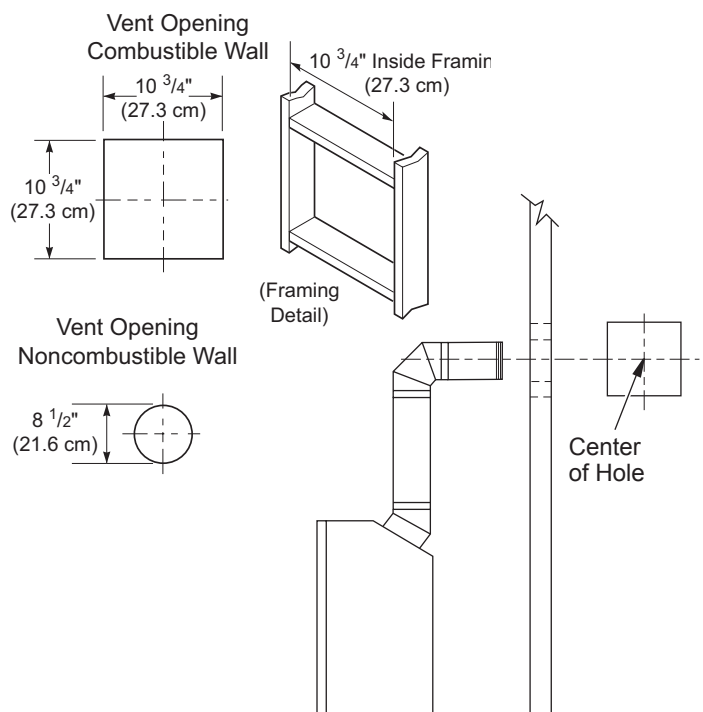
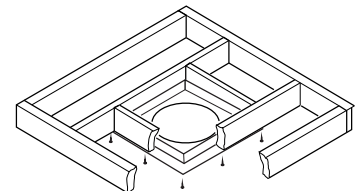

Figure 9 - Vent Opening Requirements
Figure 20 - Installing Firestop
- Carefully determine the location where the vent pipe assembly will penetrate the outside wall. The center of the hole should line up with the center-line of the horizontal vent pipe. Mark the wall for a 10 ³/₄" x 10 ³/₄" square hole. Cut and frame the square hole in the exterior wall where the vent will be terminated. If the wall being penetrated is constructed of noncombustible material, such as masonry block or concrete, a 8 ¹/₂" hole with zero clearance is acceptable (see Figure 9).
1. Cut a 10 ³/₄" square hole in the ceiling using the locating hole as a center point. The opening should be framed to 10 ³/₄" x 10 ³/₄" (27.3 cm x 27.3 cm) inside dimensions, as shown in Figure 9 on page 8 using framing lumber the same size as the ceiling joists. If the area above the ceiling is an insulated ceiling or an attic space, nail firestop from the top side. This prevents loose insulation from falling into the required clearance space. If the area above the ceiling is a living space, install firestop below the framed hole. The firestop should be installed with no less than three nails per side (see Figure 20).
3. Cut a hole in the roof using the locating hole as a center point. (Cover any exposed open vent pipes before cutting hole in roof.) The 10 ³/₄" x 10 ³/₄" hole must be measured on the horizontal; actual length may be larger depending on the pitch of the roof. There must be a 1" clearance from the vent pipe to combustible materials. Frame the opening as shown in Figure 9, page 8.